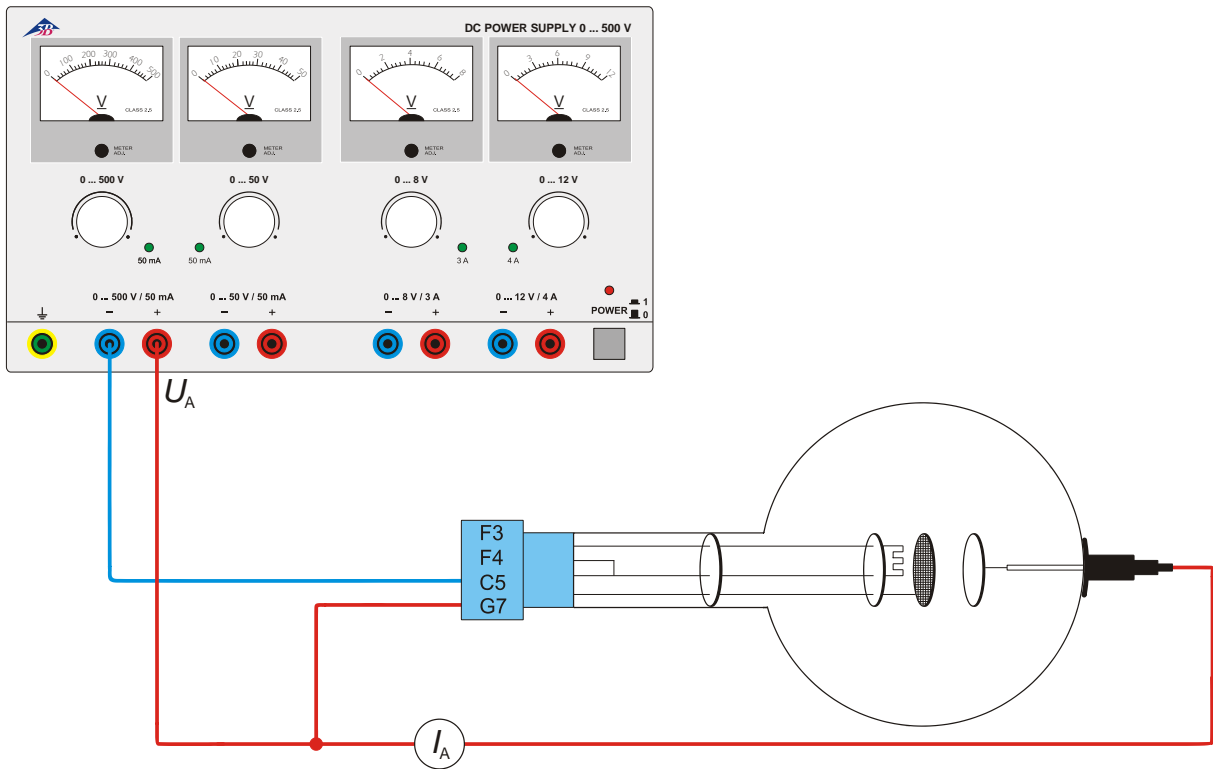

Fig.3 Self-sustaining discharge
- Set up the circuit as in fig. 3.